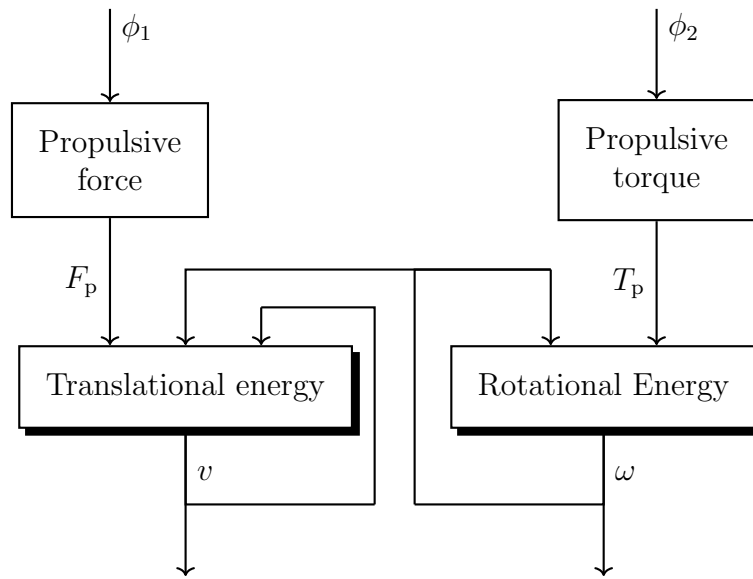

Figure 2: Causality diagram of the system.
3. The causality diagram is shown in Figure 2.